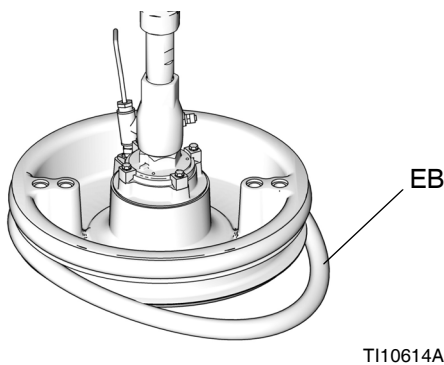

FIG. 16
1. Using a wooden or plastic tool to prevent damage to the wiper (EB), clean all material from seal grooves.
2. Working from the bottom, angle one wiper (EB) over back of platen. See FIG. 16.
3. Insert wiper (EB) in top groove and run front of wiper into groove.
4. 55 gallon wiper only: Insert second wiper (EB) in lower groove and run front of wiper into groove.